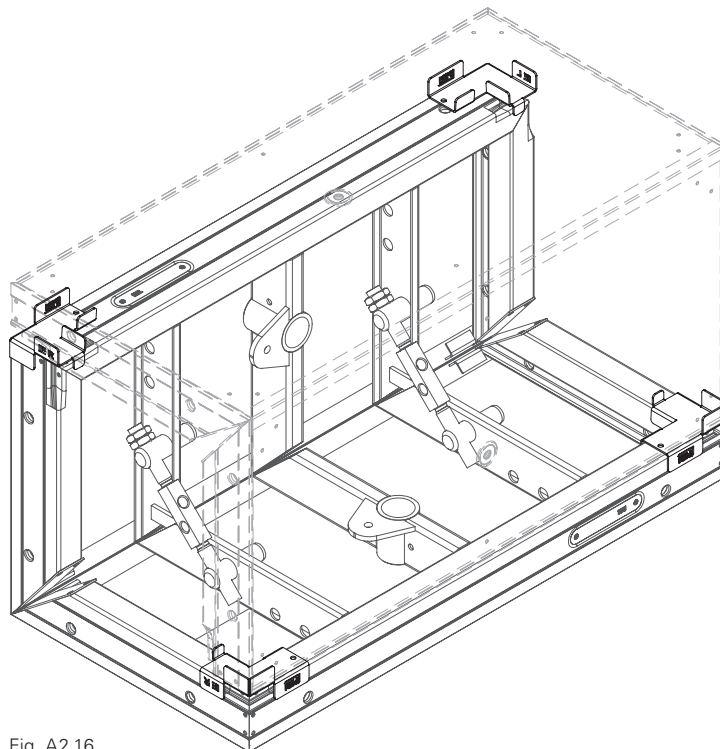

Fig. A2.16
- two inside corners. (Fig. A2.16)